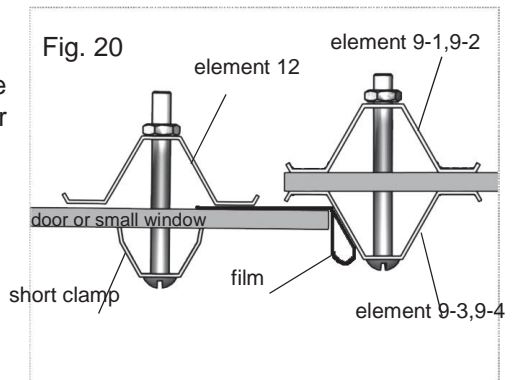

Fig. 20
6. Fasten coverage pieces on small windows and doors with washers from the side of hinges, and with clamps from other sides (Fig. 20) covering honeycomb with adhesive tape beforehand. On the sides opposite to hinges coverage should protrude behind the frame for 15 mm (Fig. 20). Hinges are put over polycarbonate and wrinkle polycarbonate under tightening the screws.